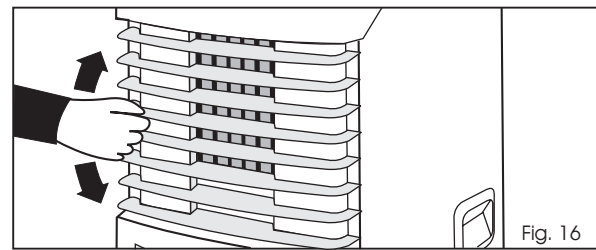

Fig. 16
- 8) To adjust "air flow" direction , (up / down only ) adjust any one of the **Horizontal Louver Blades (excluding the top or bottom louver)** and the remaining louvers will automatically adjust to the set position (**excluding the top and/or bottom louvers**). Fig.16.